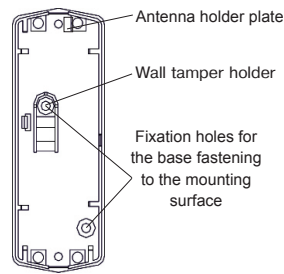

Figure 2 – Base
9.1 Choose the place of installation. Mark the holes layout, for the purpose the base of the Detector can be used (see Figure 2). Fasten the base by screws. To ensure wall tampering control, fasten the screw in the wall tamper holder.
ATTENTION! Antenna should be installed vertically on the holder (see Figure 2). Otherwise radio communication range will be essentially reduced.